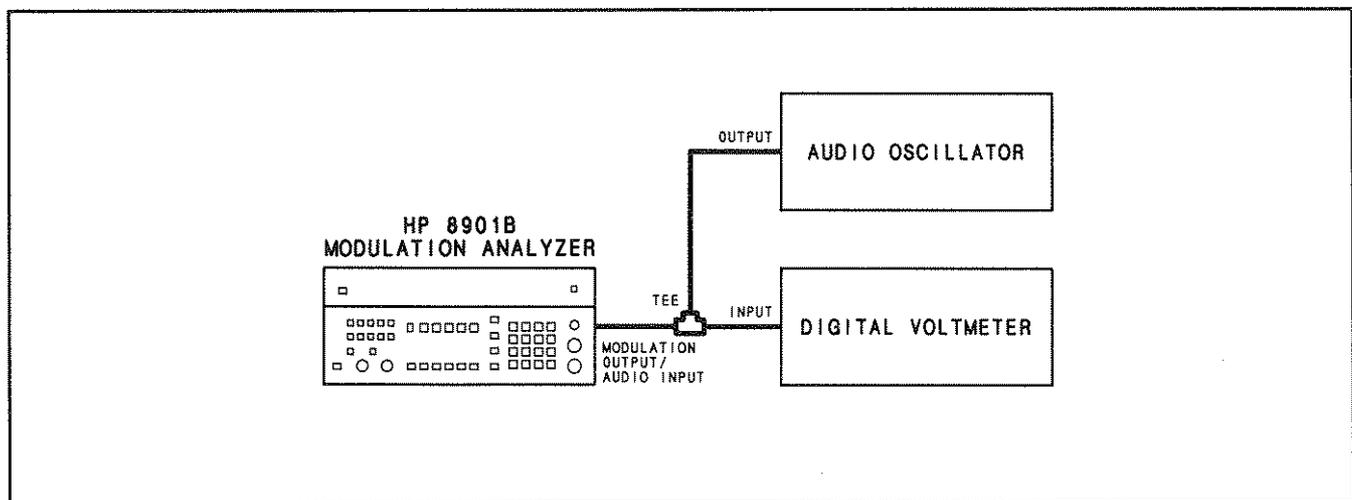

Figure 5-9. Audio True RMS Detector and Notch Filter Gain Adjustment Test Setup
5. Connect the equipment as shown in Figure 5-9.